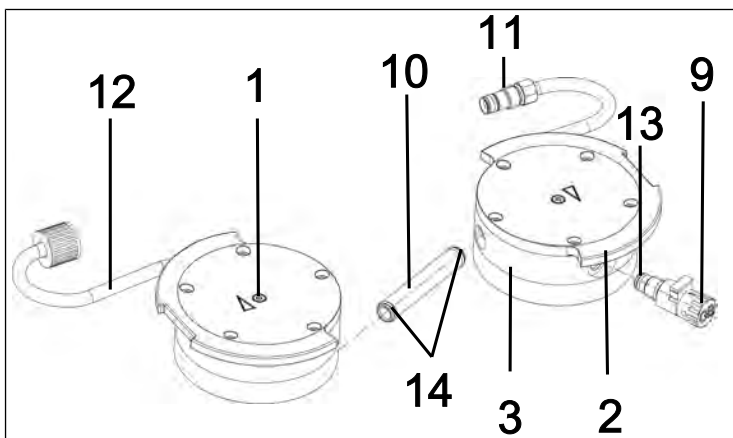

Fig.28: Changing O-rings
2. Pull the connection tube (10/ Fig. 28) out of the head plate (3).
**i** The two hose connections (11) and (12) remain mounted in the head plates.
3. Replace the two O-rings (**14**) on the connection tube (**10**/Fig. 28).
**i** If the O-rings (**14**) cannot be taken out of the connection tube (**10**/Fig. 28), press them together gently and remove them with pliers if necessary.
6. Unscrew the gas ballast (**9**/Fig. 28) from the head plate (**3**).
7. Replace the O-ring (**13**) on the gas ballast (**9**/Fig. 28).
8. Screw the gas ballast (**9**/Fig. 28) into the corresponding head plate (**3**) as far as it will go. Then turn it back again until the surface is oriented upwards.
7. Insert the connection tube (**10**/Fig. 28) back into both head plates (**3**).